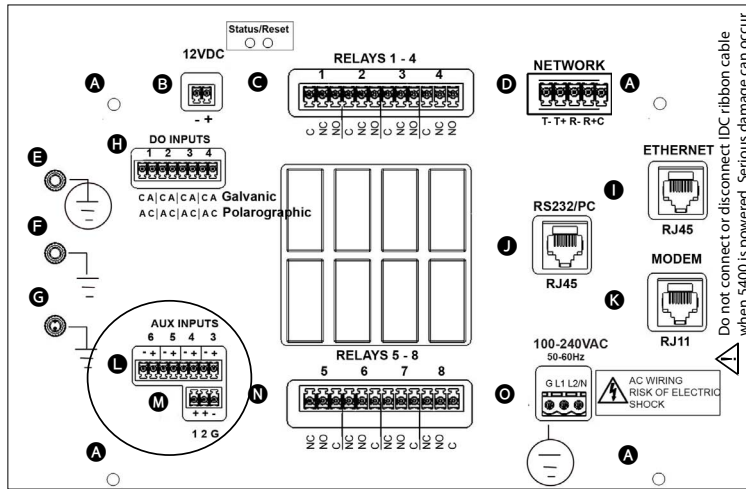

Figure 3.23
The 5X00 has six (6) auxiliary inputs. All 6 auxiliary inputs can be used for digital (open/closed dry contacts) or analog (0-1VDC; 0-5VDC, or 4-20ma) inputs. Auxiliary inputs 3, 4, 5, and 6 can be configured for a temperature sensor. See *Temperature Probes* - page 52 for wiring directions. Aux inputs can be used for a variety of applications including: level switch, pressure switch, and/or an external instrument with an analog recorder output. Aux input wires are terminated at location **L** and/or **M** on I/O Board - figure 3.23. (See 5X00 I/O Board wiring diagram on inside of front panel for identification of aux system number and pin position.) See Digital Input example - figure 3.24, and Analog Input example - figure 3.25. (Common lettering references are used for both 5400 and 5500 models).